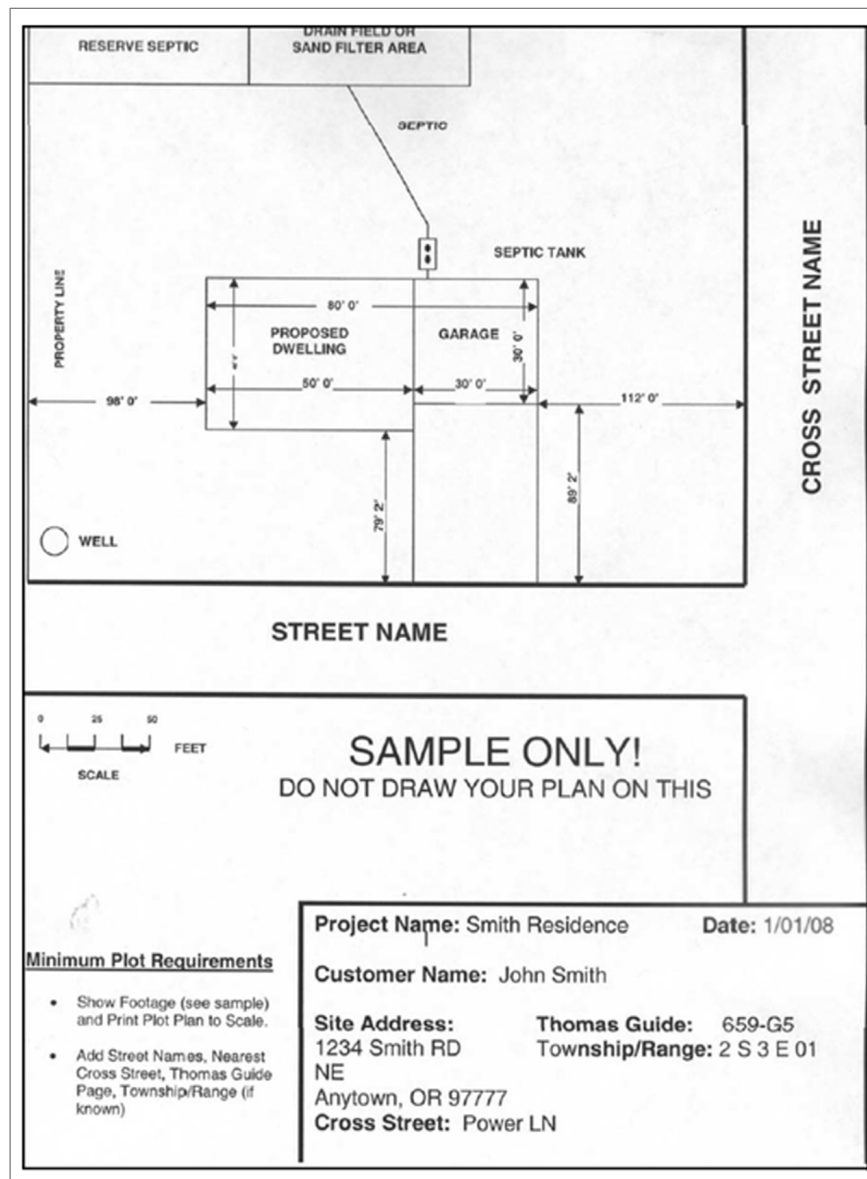

Figure 113: Example Plot/Site Plan
3. Provide a hard copy of the scaled plot or site plan that was submitted for the building permit. New connected load data that is not accompanied by a site plan may delay initiation of service. **Figure 113** on page 198 shows an example plot/site plan.